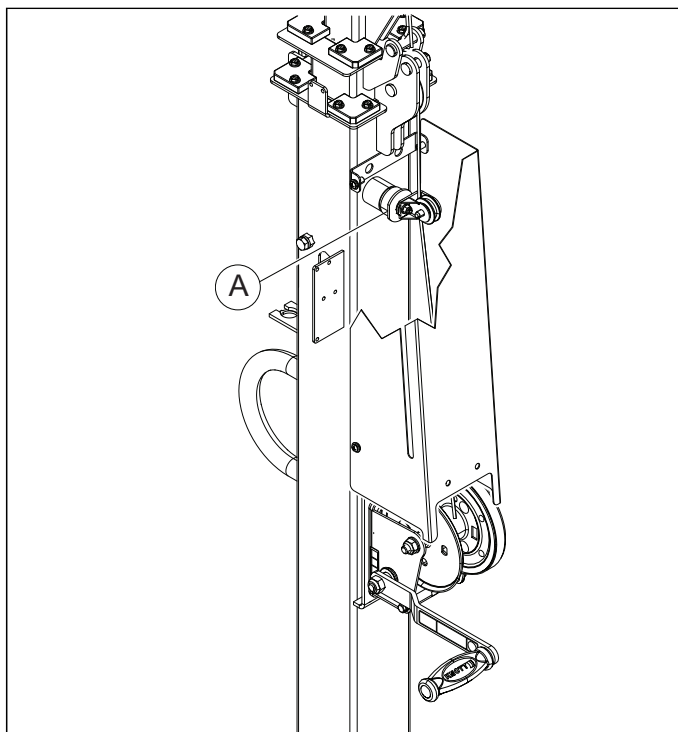

Figure 3-3. Mast Brake
1. See Figure 3-3. Units equipped with a mast brake (A).